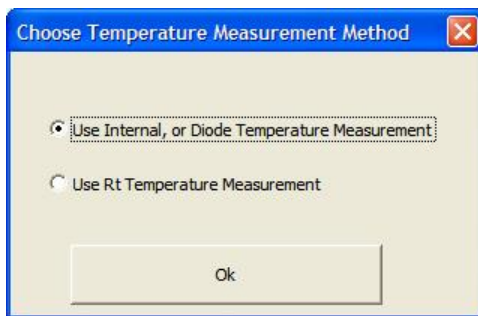

Figure 38: Choose Temperature Calibration Method
E) Select the appropriate Temperature Calibration Method (see Figure 38).